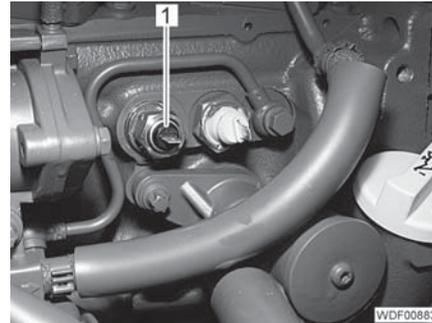

Fig. 26 Temperature sensor
- Screw in and tighten the temperature sensor (Fig. 26,1) with the copper seal.